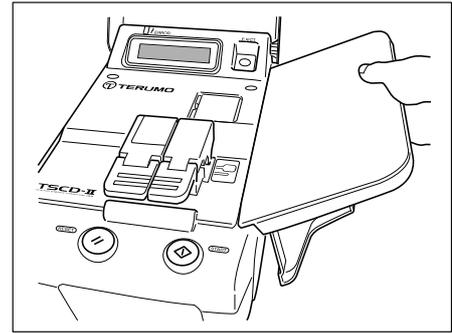

Figure 15
2. Pull up the blood bag support to remove it (See Figure 15).